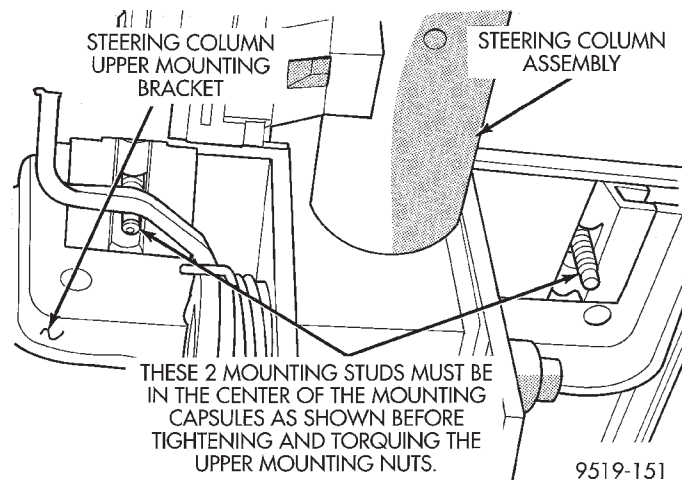

Fig. 19 Mounting Studs Correctly Positioned In Plastic Capsules
(1) Install steering column on the studs in the steering column support bracket. Loosely install the 4 steering column assembly attaching nuts.
(2) Tighten the 2 lower steering column assembly mounting nuts to hold the steering column in place. Be sure both breakaway capsules are still fully seated in the slots of the upper steering column mounting bracket and the mounting studs are centered for and aft in the plastic capsules (Fig. 19). Then equally tighten both steering column mounting